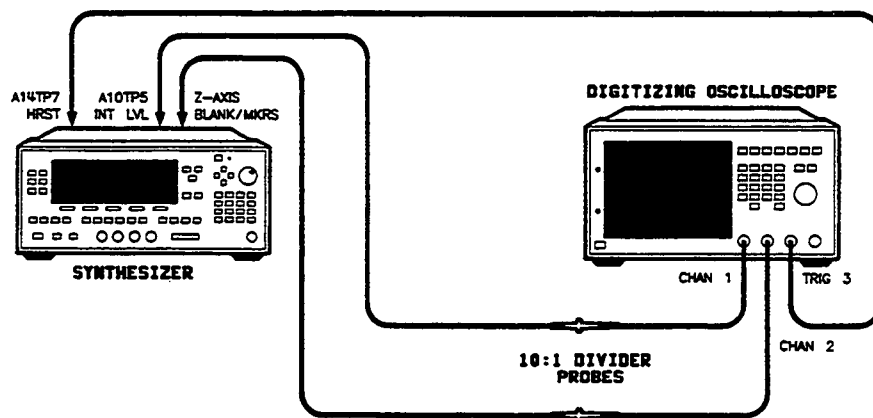

Figure 3-22. Low Power SRD Bias Adjustment Setup
1. Connect the equipment as shown in figure 3-22. Preset all instruments and let them warm up for at least one hour.